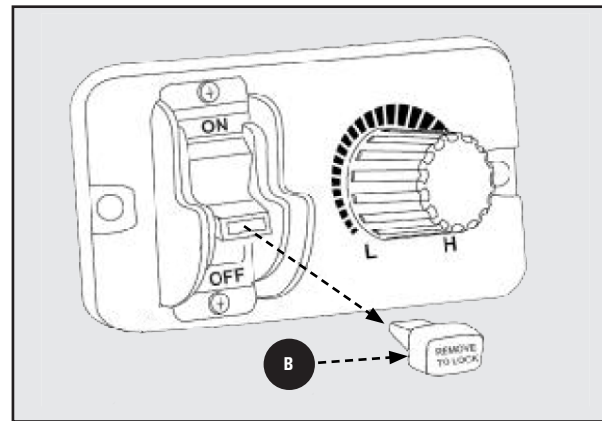

Figure 7
**IMPORTANT:** When the machine is not in use, the switch should be locked in the "OFF" position to prevent unauthorized use. To lock the machine, remove the switch key **B** by pulling it straight out. See Figure 7. With the switch key removed, the switch will not operate.